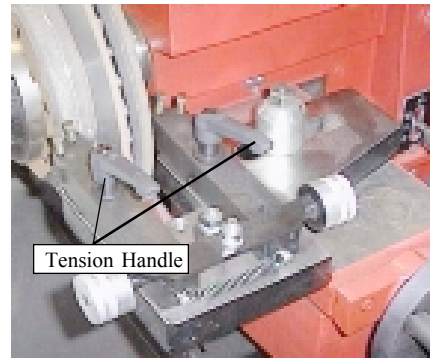

Figure 36
mum rigidity of the lathe, while machining either drums or rotors. See Figures 36 and 37.
11. With the lathe still running, advance the cross slide until these cutters reach the innermost portion of the braking surface. Turn the knurled knobs in the direction of the arrow with micrometer dial wheels past zero to .003 or .004" to clean up the rotor. See Figure 36.
12. Tighten the tension handles on top of the rotor truer to hold tool bars in proper position. See Figure 36. Engage the feed by pulling the control lever on the carriage slowly to the rotor position. The cutters will move across the face of the rotor, machining both sides simultaneously. On severely scored rotors, it may be necessary to make more than one cut. If so, repeat step 11.